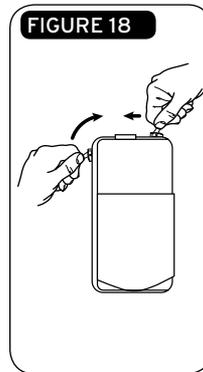

FIGURE 18
1. Reset the zippers by pulling each zipper back to the Velcro® tab on top of the LP (Figure 18).